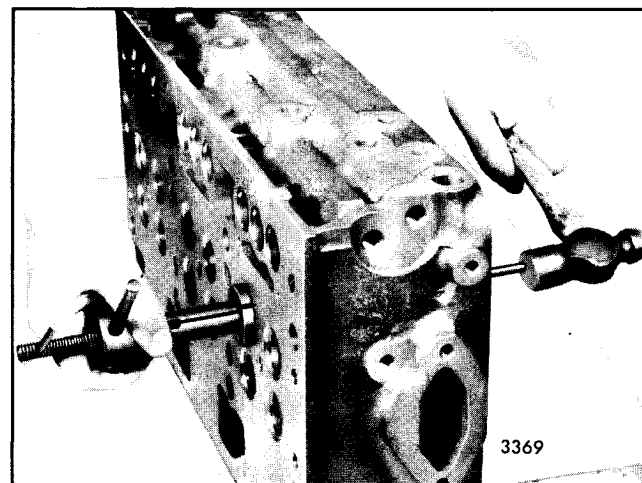

Fig. 9 - Removing Valve Seat Insert
1. Place the cylinder head on its side on a bench (Fig. 9).